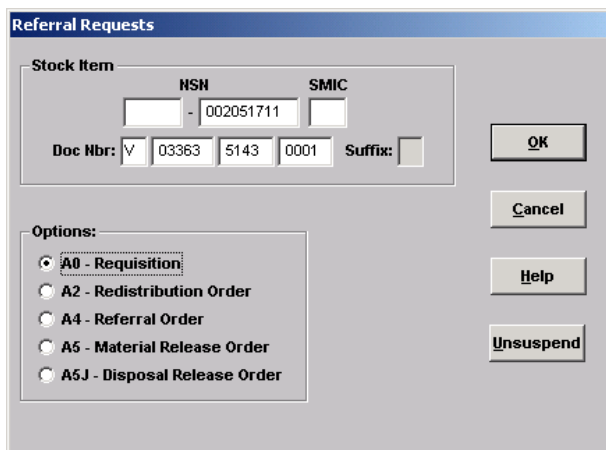

Figure 6.22
- 6.6.1 The **Referral Requests** window (Figure 6.22) is used to search for a Referral Request by **NIIN** and **Document Number**. Enter **SMIC** and **Suffix Code** as required. If Suffix is left blank, matching document numbers, regardless of suffix code will be retrieved. Select a Referral option and then click **OK**.
- 6.6.2 With **A0-Reqquisition** selected on the **Referral Requests** window (Figure 6.22), the **Referrals** window (Figure 6.23) displays with a requisition document submitted to a supply source to obtain material.
- 6.6.3 With **A2 - Redistribution Order** selected on the **Referral Requests** window (Figure 6.22), the **Referrals** window (Figure 6.24) displays with an order issued by a responsible IMM to an accountable supply distribution complex directing release of material to another supply distribution activity within the same supply complex.
6.6.4 With **A4 - Referral Order** selected on the **Referral Requests** window (Figure 6.22), the **Referrals** window (Figure 6.25) displays with an order used between depots, supply centers, inventory managers, or other managers in an established supply distribution system for passing correctly routed requisitions for continued supply action when the initial activity cannot fill the demand.
- 6.6.5 With **A5 - Material Release Order** selected on the **Referral Requests** window (Figure 6.22), the **Referrals** window (Figure 6.26) displays with a requisition type order issued by an accountable supply system manager (usually an inventory control point or accountable depot or stock point). The order goes to a non-accountable activity (usually a storage site or material drop point) within the same supply distribution system to release and ship material.
- 6.6.6 With **A5J - Disposal Release Order** selected on the **Referral Requests** window (Figure 6.22), the **Referrals** window (Figure 6.27) displays with a requisition type order issued by an accountable supply system manager (usually an inventory control point or accountable depot or stock point). The order goes to a non-accountable activity (usually a storage site or material drop point) within the same supply distribution system to release and ship material to a DRMO.